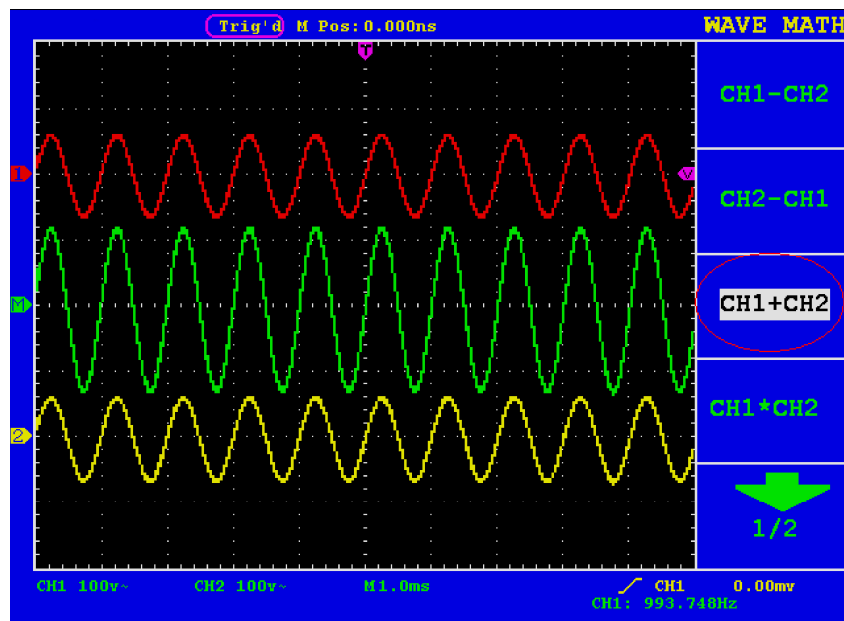

Fig. 26 Wave Form resulted from CH1 +CH2 Mathematical Manipulation
2. Press the **F3** menu selection button and choose **CH1+CH2**. The green calculated wave form M is displayed in the screen; press the **F3** menu selection button again, the wave form M is closed off (see Fig.26).